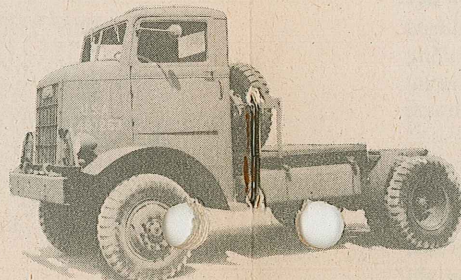

FIG. 3. 4-TON, 4X4, TRACTOR
*The 4-5-ton, 4 x 4, tractor-truck.*—This vehicle is used for towing semitrailers, such as fueling units for the Air Corps, combination cargo and animal carriers for the Cavalry, and trailers loaded with spare parts for Quartermaster companies (Fig. 3).